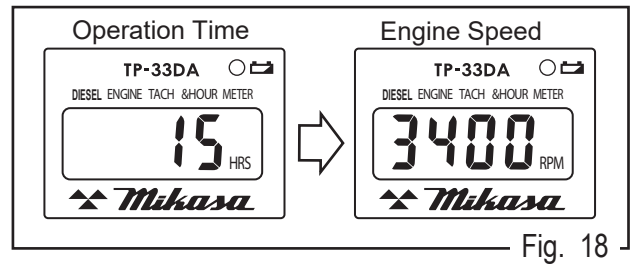

Fig. 18
d. If the engine starts, the “Engine Speed” will appear on the Tach & Hour meter. (Fig. 18) Once the engine speed increases, the buzzer stops. The engine comes with a safety starter switch. If the travel lever is not in the stop position, the cell starter will not work.